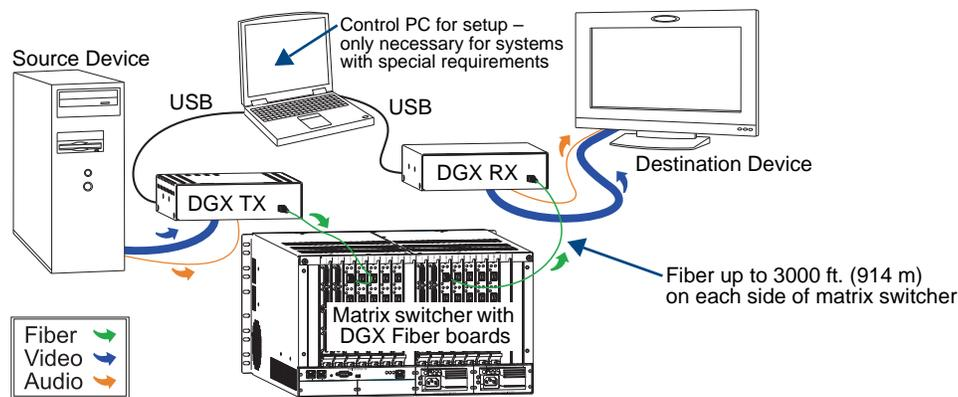

FIG. 11 DGX TX and DGX RX modules in module-to-DGX Switcher-to-module solution
- FIG. 11 shows a DGX TX and a DGX RX used in conjunction with DGX Fiber boards in a DGX matrix switcher.